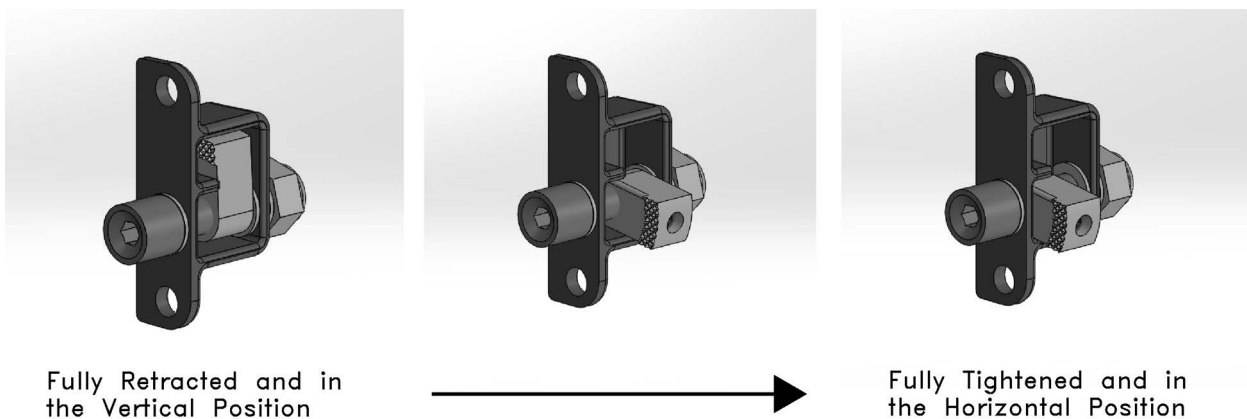

Figure C-2. Pawl Latch
1. Per Figure C-2, ensure the pawl latch fasteners are fully retracted and in the vertical position.
3. Using a 3/32" hex drive tool turn each of the two pawl latches clockwise until tightened to 20 +/-2 in-lbs. When tightened, the pawl latches are in the horizontal position (see Figure C-2).
4. Using a 3/32" hex drive tool turn each of the two pawl latches clockwise until tightened to 20 +/-2 in-lbs. When tightened, the pawl latches are in the horizontal position (see Figure C-2).